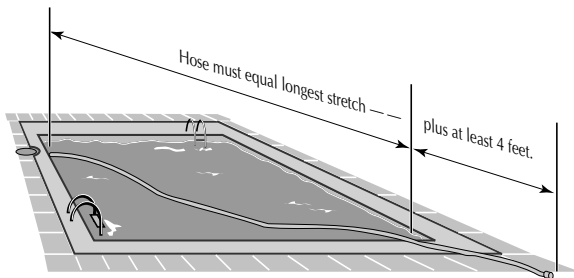

Figure 7
Step 7: Measure hose length needed (Figure 7)